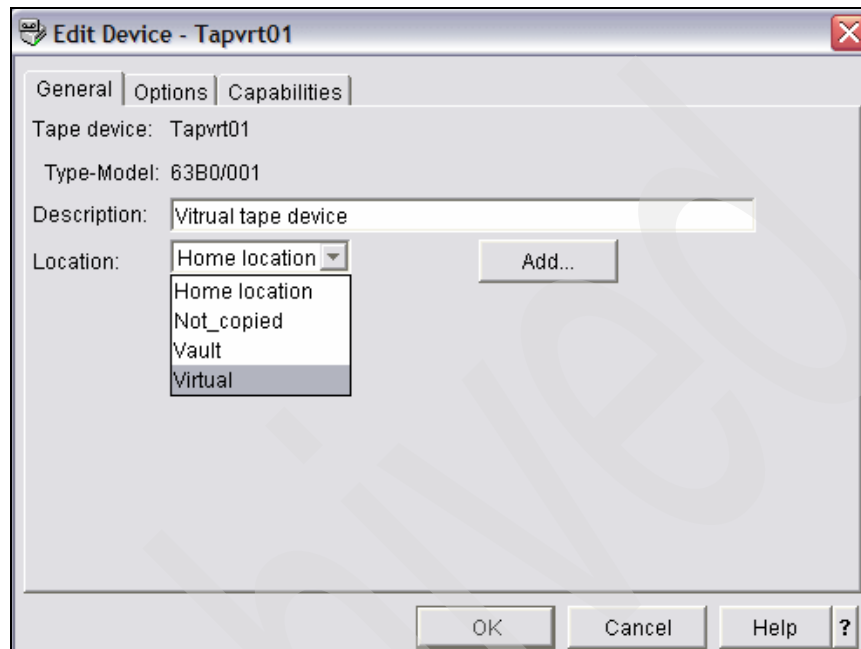

Figure 8-21 Edit tape drive to point at location
3. Select **Tapvrt01** and click **Edit**. Against the General tab in the window shown in Figure 8-21, change the tape drive to the location in which you placed your virtual volumes. You have to do this although it is actually a virtual location.